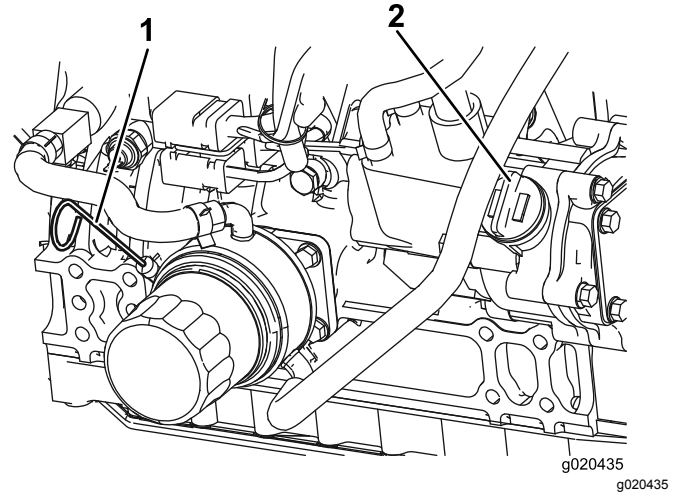

Figure 16
The oil level should be in the safe range (Figure 16).
4. If the oil is below the safe range, remove the fill cap (Figure 16) and add oil until the level reaches the FULL mark. **Do not overfill.**